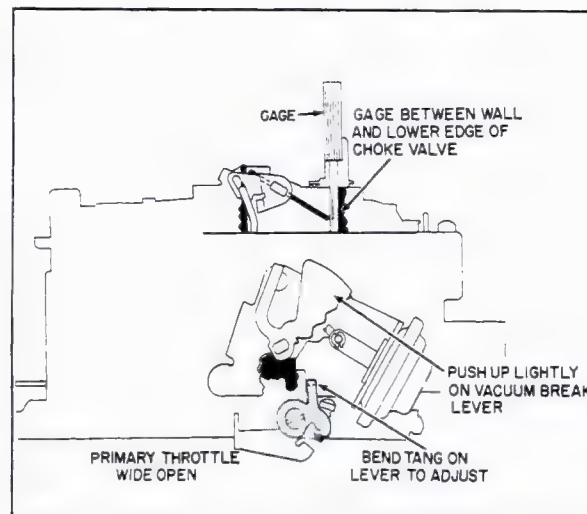

Fig. 6-82 Unloader Adjustment
#### 85. Unloader Adjustment (Fig. 6-82)
3. Bend tang on fast idle adjusting lever, Fig. 6-82 to adjust.